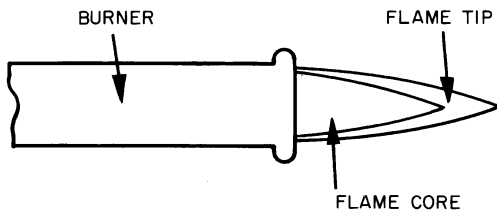

Fig. 5 — Proper Flame Appearance
5. Observe unit heating operation, and watch the burner flame with the access panel removed to see if it is bright blue. If you observe a suspected malfunction, or that the burner flames are not bright blue, call your dealer. See Fig. 5. Some yellow flame may be present due to the panel being removed.